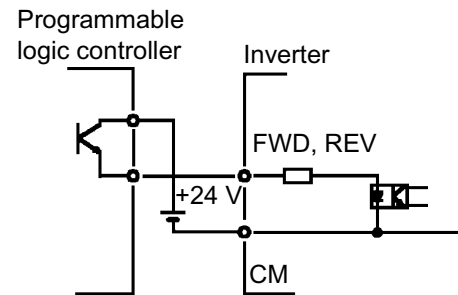

Figure 2-3-11 Connection for External power supply
1. Digital input terminals (e.g., FWD, REV, X1 to X9) are generally turned on or off by connecting or disconnecting the line to the P24 terminal. If +24 V power supply is provided from external, connect each terminals as shown in Fig. 2-3-11.